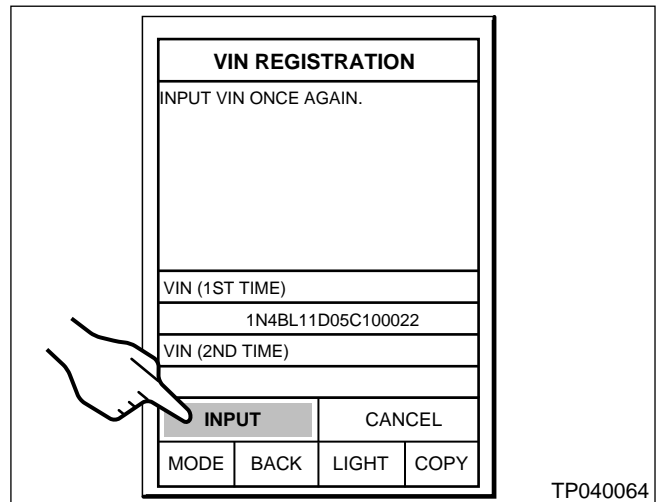

Figure 15
- h. Select **INPUT** on the “VIN Registration” screen and enter the entire VIN again. See Figure 15.